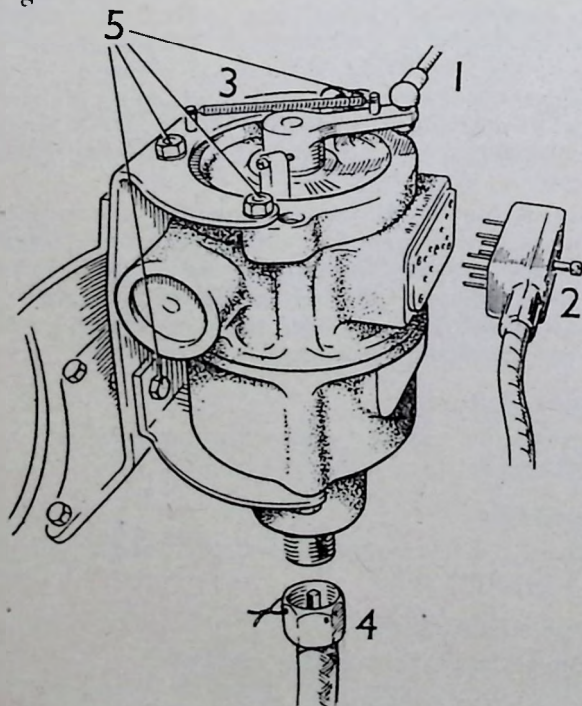

FIG 33.—Removing governor.
- Disconnect the throttle linkage (1, Fig. 33).
- Carefully remove 9-pin plug (2); withdraw squarely.
- Remove spring (3).
- Cut the locking wire and disconnect flexible drive (4).
- Remove the governor from bracket (5).